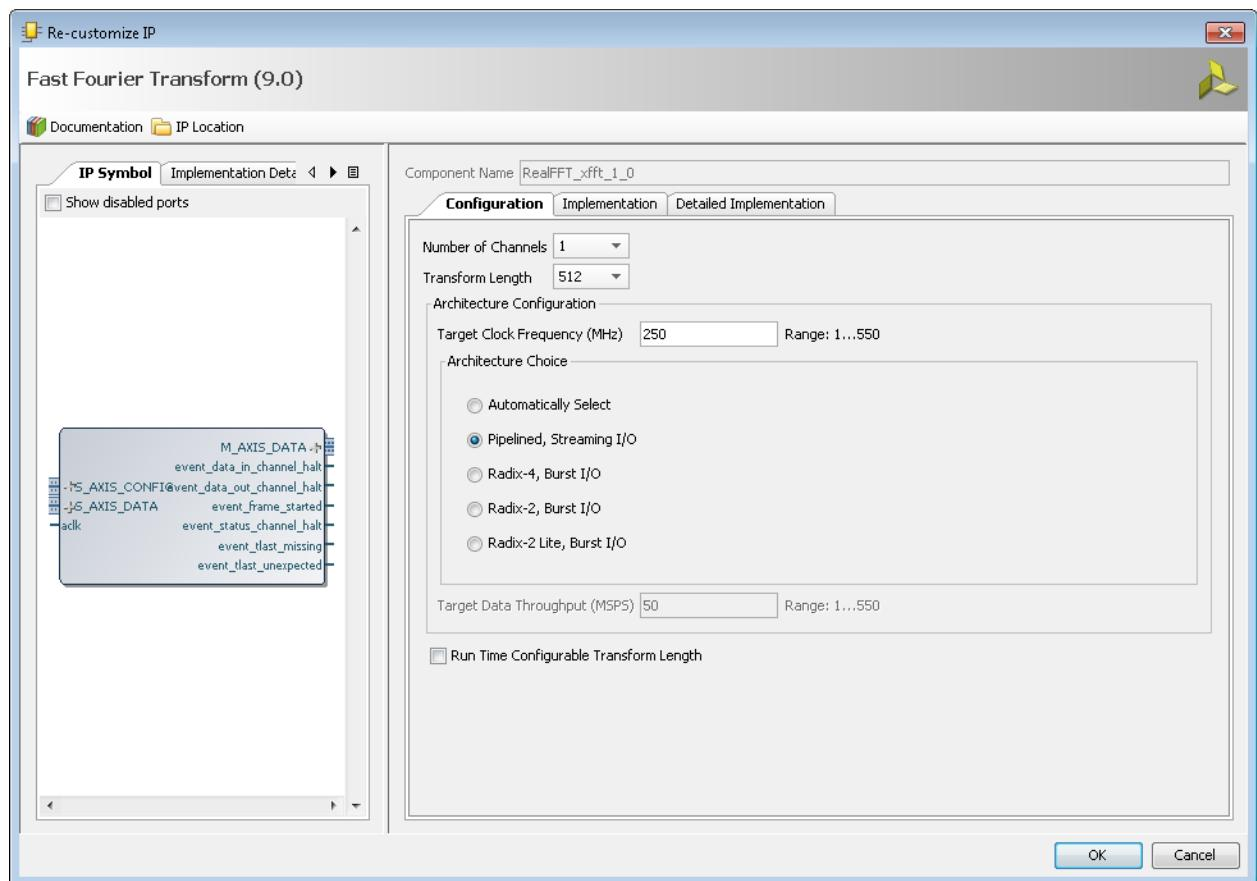

Figure 199 Xilinx FFT Configuration
4. On the Configuration tab (Figure 199):